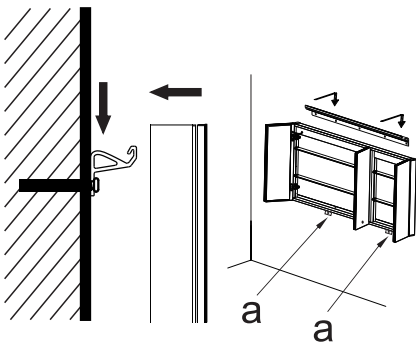
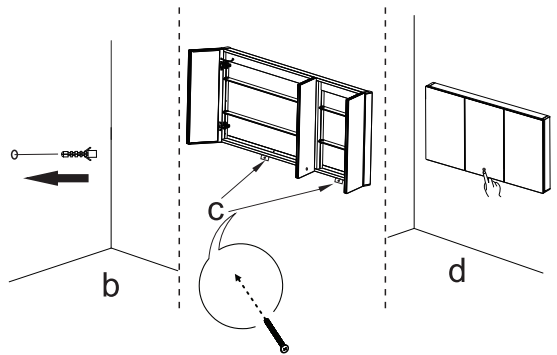

Fig.5
Fig.6
- 2.3 Install the mirror cabinet on the hanging strip ,see details in Fig.5. Choose right locating place and use pencil to make sign on the wall through the base fixing the hole (a).
- 2.4 Remove the mirror cabinet, drill the fixing hole in the wall in the marked position, and place the expansion plugs (Fig. 6-b).
- 2.5 Repeat as shown in Fig.5 to install the mirror cabinet on the wall. Lock the fixing plate at the bottom of the mirror cabinet on the wall with screws (Fig.6-C)
- 2.6 Finally,switch on the power,and then touch the "switch" sign (fig.6-d)with a finger on the lens to test the products